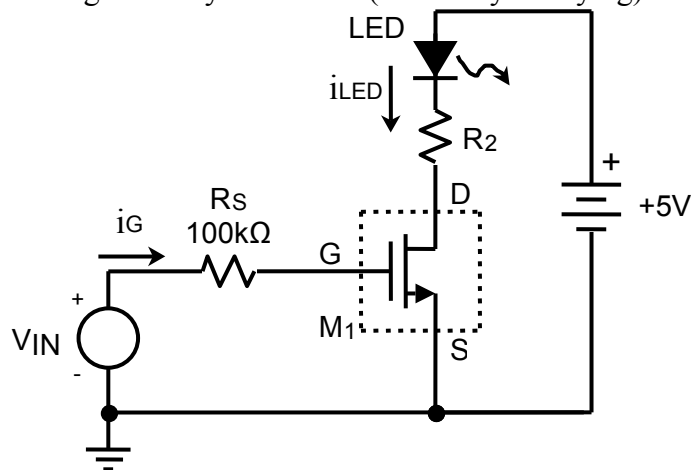

Figure 3-7
- L19. One solution is to use the MOSFET as a switch to drive the LED, as shown in Figure 3-7. Since the MOSFET gate current is zero, there is no voltage drop across the high source resistance R_S .
- L21. Build the circuit of Figure 3-7, with a red LED and your design value for R_2 from part L20 (use the closest standard value available in your ECE lab kit). Set v_{IN} to be a 0 to +5V square wave at a frequency of 1Hz (one cycle per second). You should see the LED blinking, with good illumination during the “on” half of the cycle.